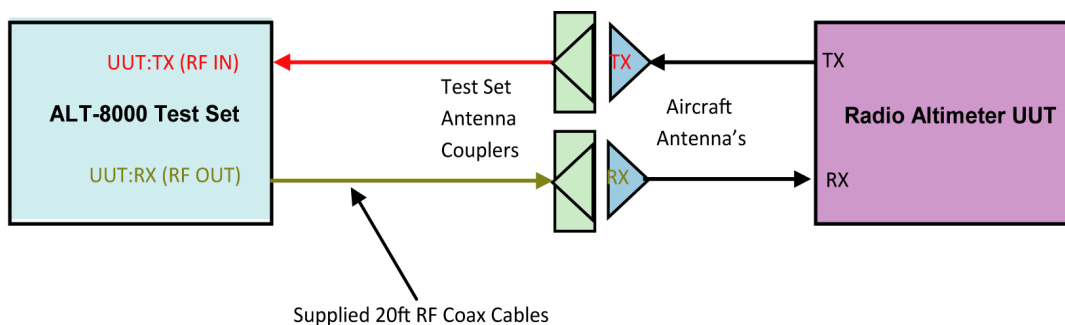

Fig. 4-10 ALT-8000 RF Connections
7.	Refer to Fig. 4-10. Connect the Antenna Coupler's TNC connectors to the RF Coax Cables as indicated.